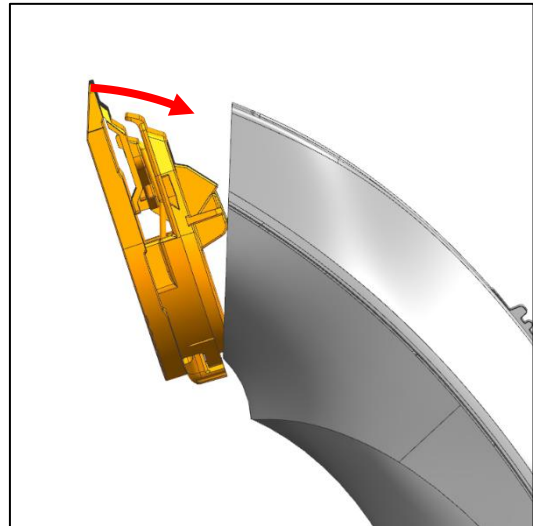

Fig. 39
- b) Press the blade set onto the housing until a "click" is heard (Fig. 39). The blade set is now locked onto the housing.